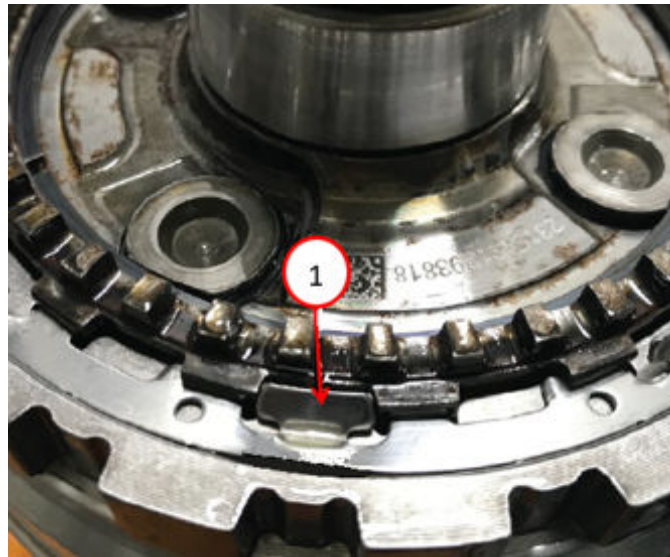

Fig. 27
40. Install the **NEW** P4 planetary carrier/output shaft lock ring from the P4 annulus drum by turning the lock ring to center the lock ring tabs in the output shaft tab openings and gently staking the locking tabs closed Fig. 27.